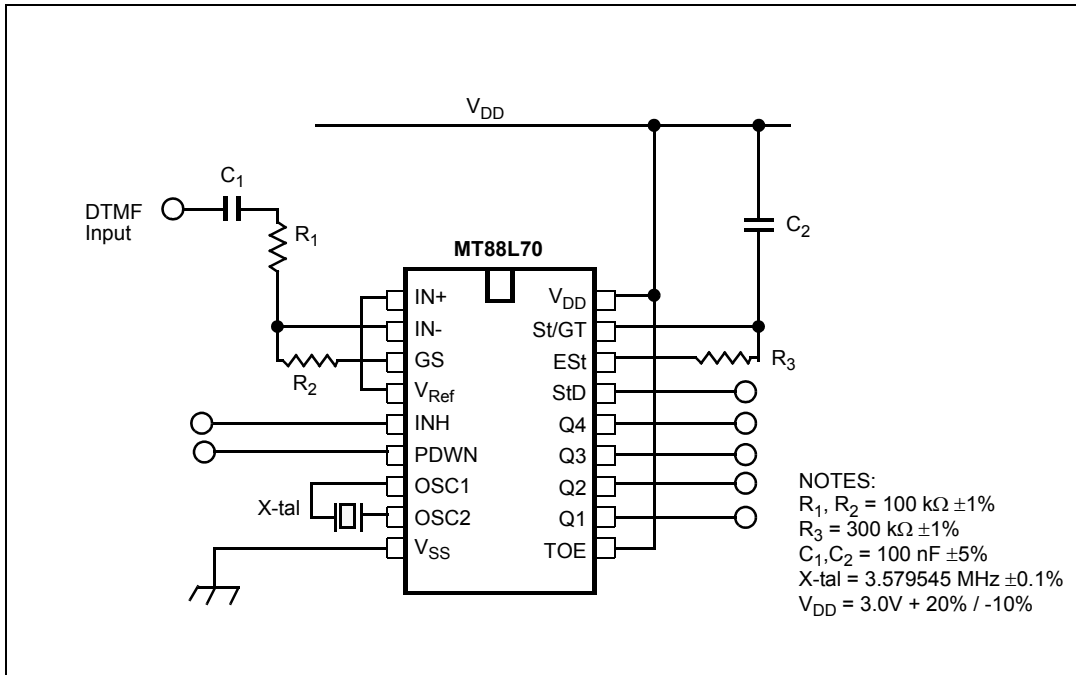

Figure 6 - Single-Ended Input Configuration
The input arrangement of the MT88L70 provides a differential-input operational amplifier as well as a bias source (V_{Ref}) which is used to bias the inputs at mid-rail. Provision is made for connection of a feedback resistor to the op-amp output (GS) for adjustment of gain. In a single-ended configuration, the input pins are connected as shown in Figure 6 with the op-amp connected for unity gain and V_{Ref} biasing the input at $1/2V_{DD}$. Figure 5 shows the differential configuration, which permits the adjustment of gain with the feedback resistor R_5 .
The internal clock circuit is completed with the addition of an external 3.579545 MHz crystal and is connected as shown in Figure 6 (Single-ended Input Configuration).
A single-ended input configuration is shown in Figure 6. For applications with differential signal inputs the circuit shown in Figure 5 may be used.
AC Electrical Characteristics - $V_{DD} = 3.0\text{ V} +20\%/ -10\%$, $V_{SS} = 0\text{ V}$, $-40^{\circ}\text{C} \leq T_O \leq +85^{\circ}\text{C}$, using Test Circuit shown in Fig. 6.
AC Electrical Characteristics - $V_{DD} = 3.0\text{ V} \pm 20\% / -10\%$, $V_{SS} = 0\text{ V}$, $-40^{\circ}\text{C} \leq T_o \leq +85^{\circ}\text{C}$, using Test Circuit shown in Figure 6.